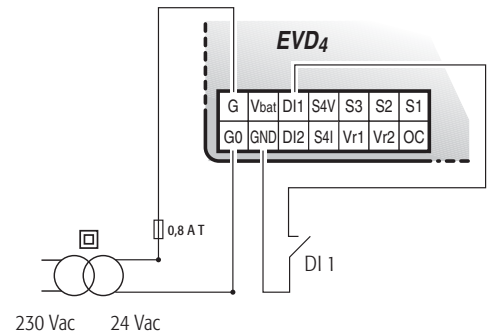

Fig. 3.11
- Power supply: with reference to Fig. 3.11, connect G and G0 to the 24 Vac power supply side.